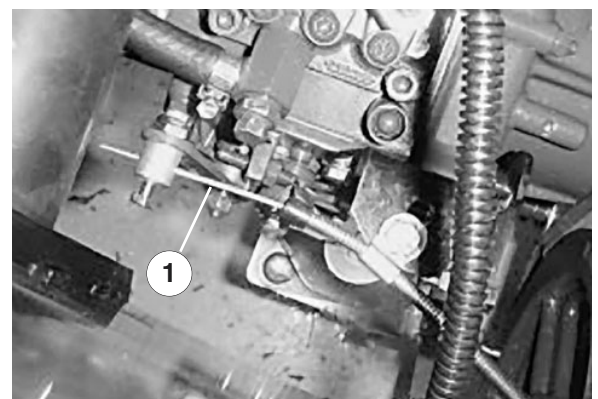

Figure 36
1. Adjust the throttle cable (Fig. 36) so the governor lever on the engine contacts the low- and high-speed set bolts before the throttle lever contacts the slot in the control panel.